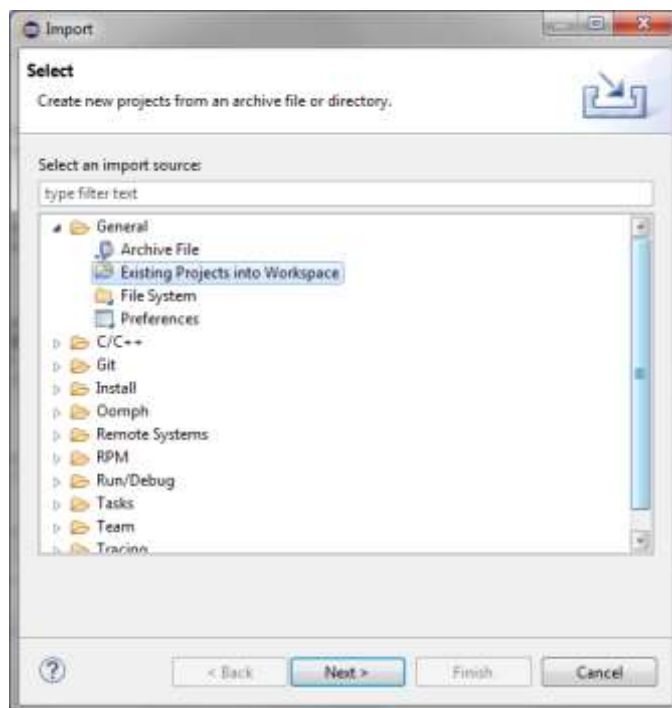

Figure 2 Import Existing Projects to Workspace
3. Launch Eclipse and import the MCCI projects into the current workspace by going to File | Import | General | Existing Projects into Workspace as shown in Figure 2